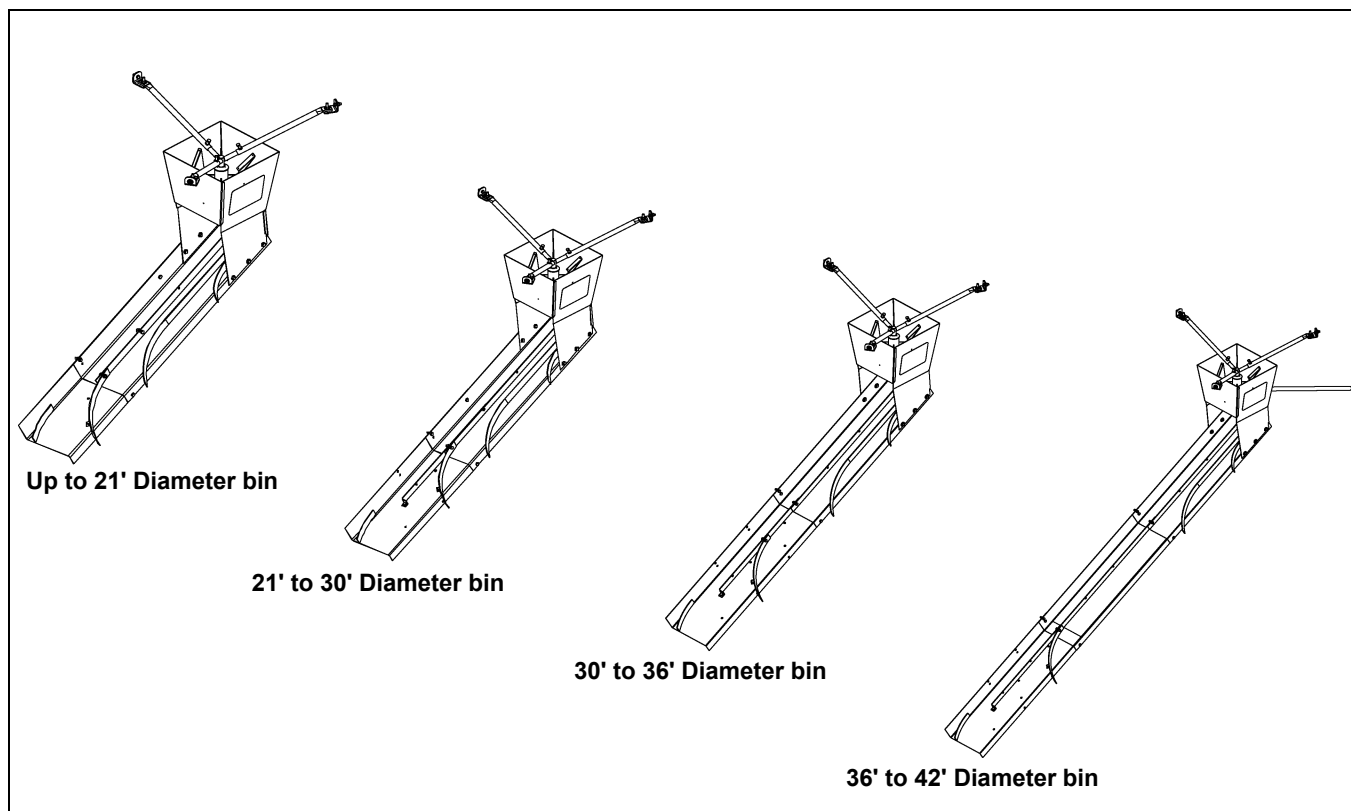

Figure 2A
- a. 21' Diameter and smaller - Assemble in the shortest position. *(See Figure 2A.)*
- b. Over 21' through 30' diameter - Assemble in the middle position. *(See Figure 2A.)*
- c. Over 30' through 36' diameter - Assemble in the longest position. *(See Figure 2A.)*
- d. The 3050 spreader can be used for bin diameters up to 42' diameter when a chute extension option (3079009-Y) is installed between the first and second chutes. **NOTE:** *The counterweight option (3079011-Y2) must be installed when using the chute extension. (See Figure 2A.)*